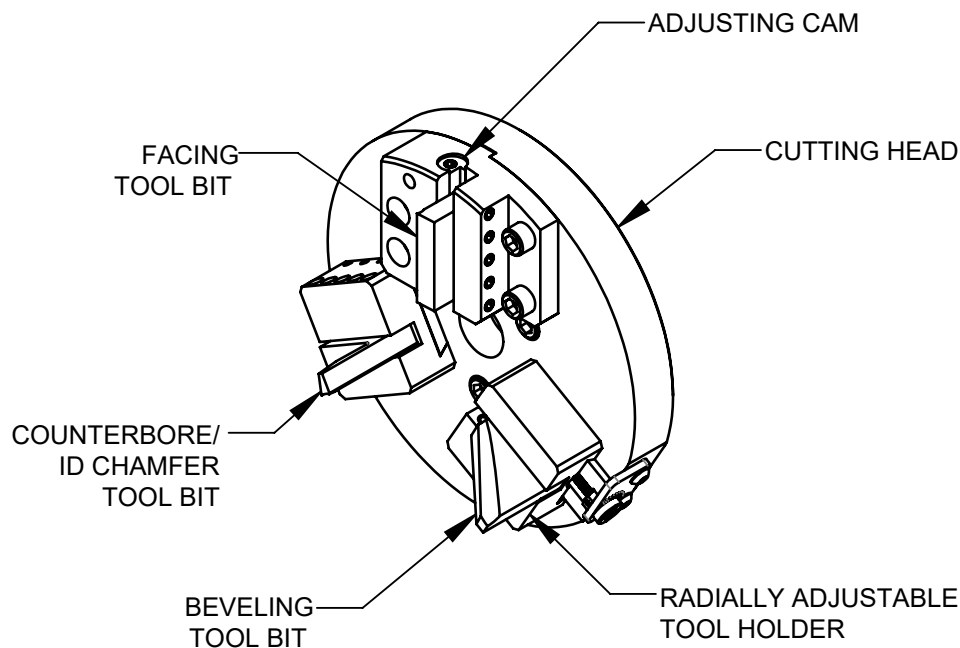

Figure 11: Tool Bit Locations
3. When performing any separate machining operation such as facing, beveling, or counterboring, the Tool Bit(s) may be installed in any one of the three (3) Cutting Head slots (refer to Fig. 11).
4. When performing any multiple machining operations such as facing, beveling, and/or counterboring, the Tool Bit(s) should be installed with one (1) in each slot.